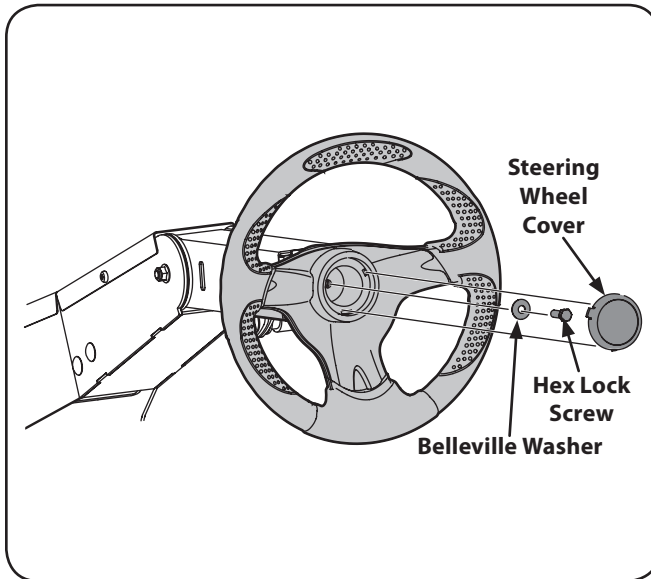

Figure 3-9
3. Place the belleville washer over the steering wheel and secure with the hex lock screw. See Figure 3-9.